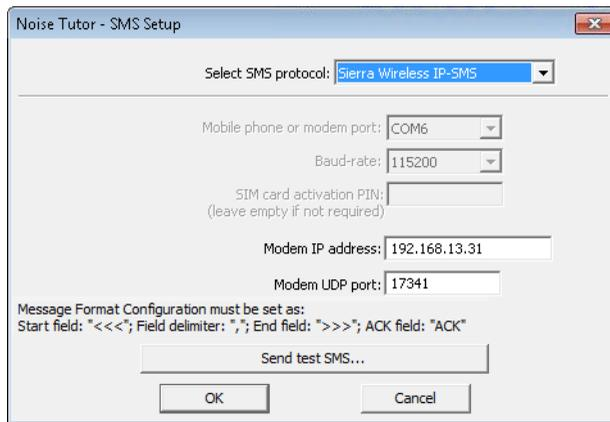

FIGURE 3-16 SMS Setup
Step 2 Refer to FIGURE 3-16 while entering the following information: